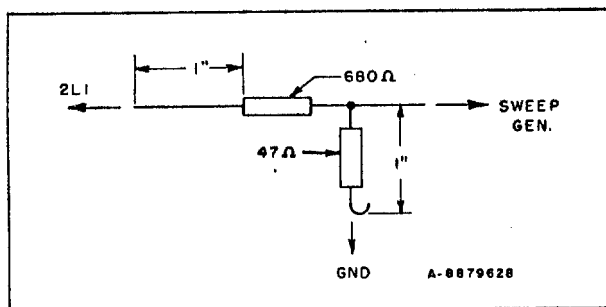

Figure RM-8—30 mc Alignment Resistor Network
d. Apply the sweep generator to 2L12, ground 2V2-1, attach the alignment jig to the bottom of 2C21, and apply capacitor test equipment item 27(e), to 2V5-5 so as to ground this point to r-f only. Align 2L15, 16 and 17 as in (c).
f. Attach the 680-ohm - 47 ohm resistor combination, test equipment item 27 (b) (see figure RM-8), between the screw directly above 2L3 and the standoff insulator connection to 2L1.